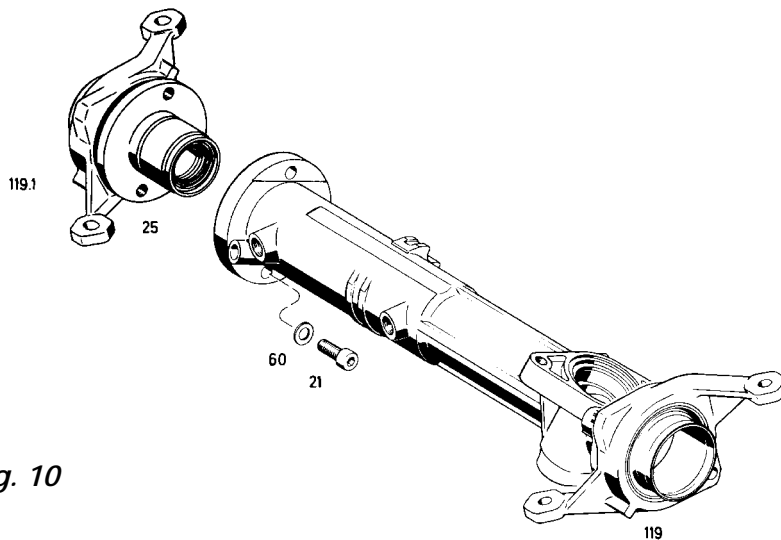

Fig. 10
Screw the cylinder screws (21) with washers (60) out (**Fig. 10**).